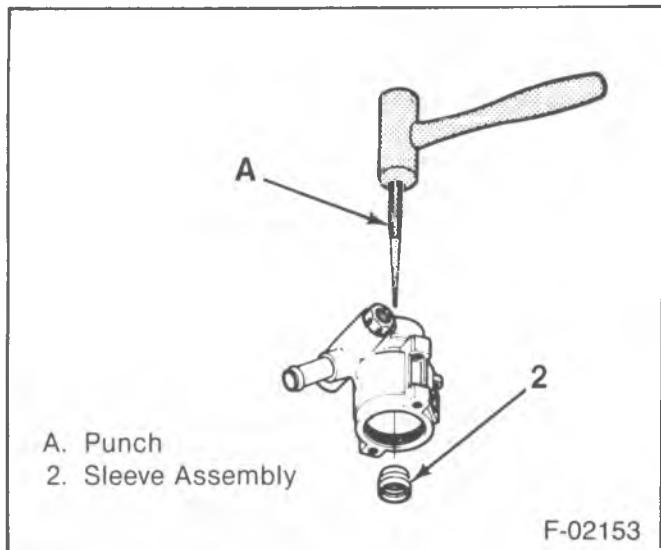

Figure 38—Removing the Sleeve Assembly
17. Vanes (9).
18. Dowel pins (8).
19. Pressure plate (7).
20. O-ring (6).
21. Pressure plate spring (5).
22. O-ring seal (4).
23. Dowel pin (3).
24. Sleeve (2) (figure 38).
Inspect (Figure 38)